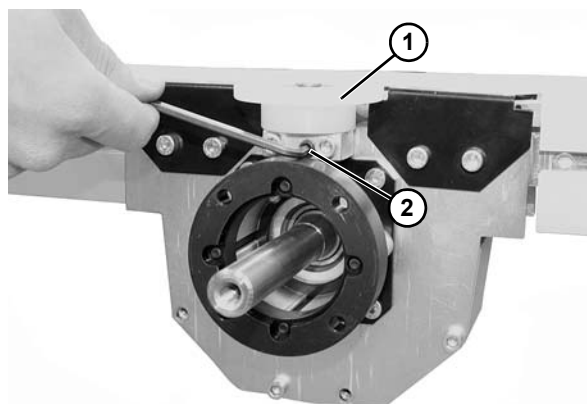

Figure 70
9. Install belt hold down wheel (**Figure 70, item 1**) and tighten set screw (**Figure 70, item 2**).